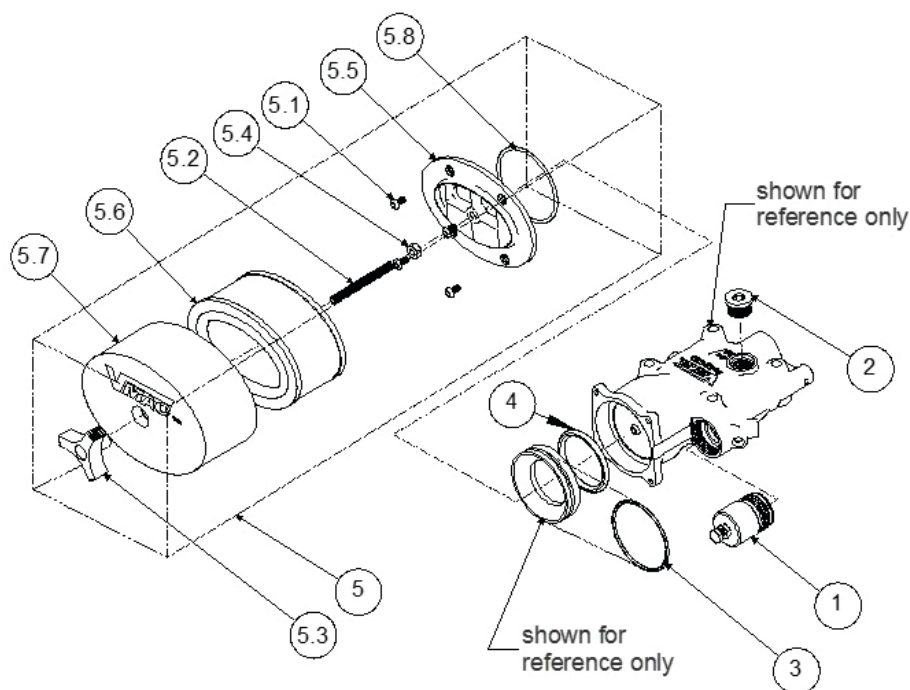

Figure 79 — Inlet Valve Sub Components
3. Inlet Valve Sub Components, 9200570 (Figure 79)